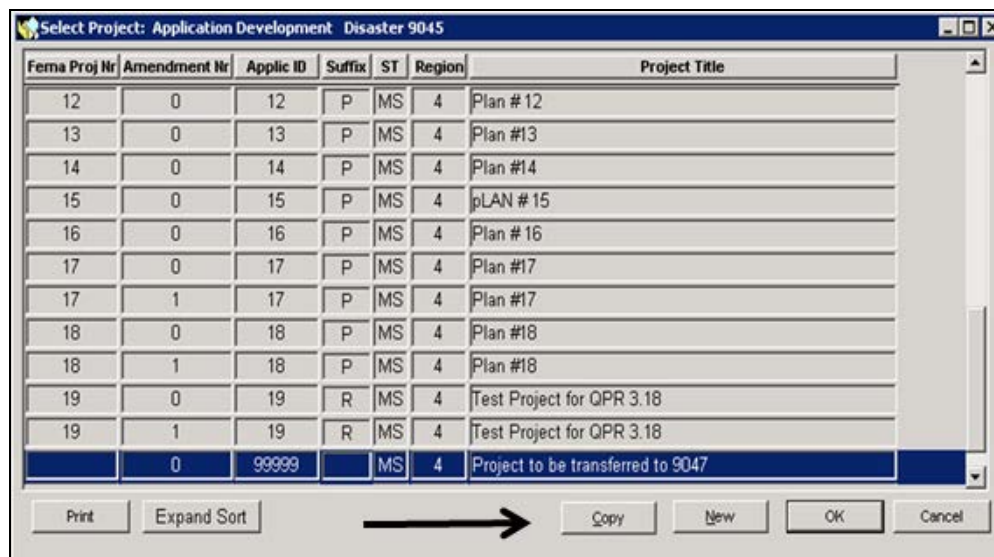

Figure 6-126: Mitigation > Projects > Application Development > Copy
1. On the MITIGATION menu, select Projects > Application Development. Make sure you are on the disaster where the original application is. When the Application Development screen appears, select or highlight the project to be copied, and then click on the COPY button (Figure 6-126).